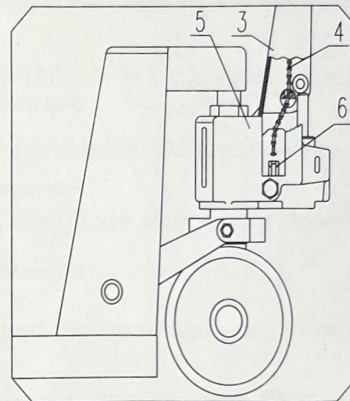
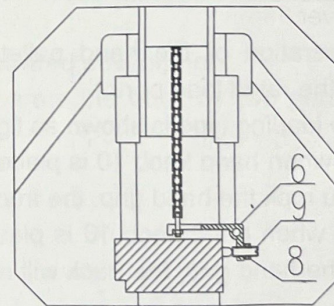

Fig. 2
Fig. 4
- 3.4 See fig 2. Put the chain 4 of hand grip get across the middle hole of pin roll 1.
- 3.5 Take screw nut which is at the end of chain 4 and hitch the groove of lever board 6. See fig 2 and fig 4.
- 4.2 The screw 9 in fig 4 is used to adjust the truck situation. When the truck body drops immediately after it is lifted, you should turn the screw 9 a little counter-clockwise. And then try the truck again until truck body could lift normally. If the truck body couldn't drop after it is lifted, you should turn the screw 9 a little clockwise. And then try to operate truck again until the truck body could drop normally. The external hexagon nut 8 at screw 9 plays the locking function in the truck. So you should undo the external hexagon nut 10 before adjustment. And screw down the nut 8 after you finish the adjustment.